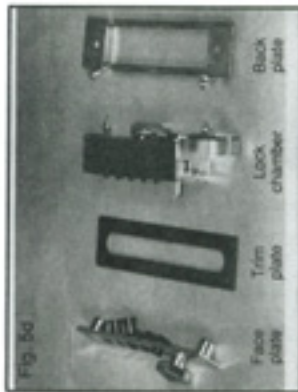

Fig. 5d
2. Partially disassemble the lock by removing both pieces of the back plate, the face plate, and the trim plate. Put aside the trim plate. (See fig. 5d)